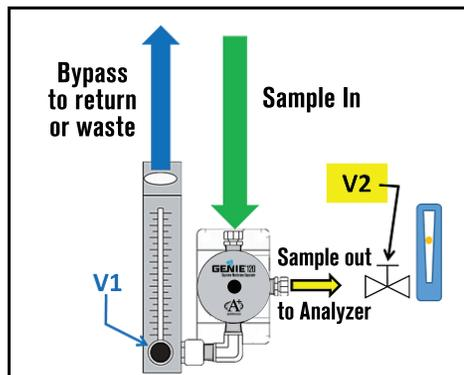

Figure 1
- ▶ The **Genie®** ports are labeled **inlet**, **outlet**, and **bypass**. Connect tubing from the sample stream to the **Genie® inlet port**. The **bypass port** must be facing downward for the **Genie®** to function properly (Figure 1).
- ▶ A means of indicating and adjusting outlet flow, such as a rotameter with a throttling valve (e.g., V2 in Figure 1), is usually required and is typically part of the analyzer package.
- ▶ A flow restrictor, typically a throttling valve (e.g., V1 in Figure 1), is usually required downstream of the bypass port to force flow through the membrane and outlet port, except in negative gauge pressure applications where gravity is the only motive for draining liquid from the Genie. A rotameter containing a valve may be installed at the **bypass port**, but only if the **inlet port** pressure is below the pressure rating. Do not plug the **bypass port** or leave it open to the atmosphere.
- ▶ First prevent flow through the Genie outlet port, usually by completely closing a downstream valve (V2 in Figure 1).
- ▶ Next minimize flow restriction downstream of the Genie bypass port, usually by fully opening the throttling valve downstream of the bypass port (V1 in Figure 1).
- ▶ Once flow has been established through the bypass port, slowly open the valve downstream of the outlet port (V2 in Figure 1) to establish the minimum required outlet flow. If the outlet flow is inadequate with V2 fully open, then gradually close V1 to force more flow through the outlet port.